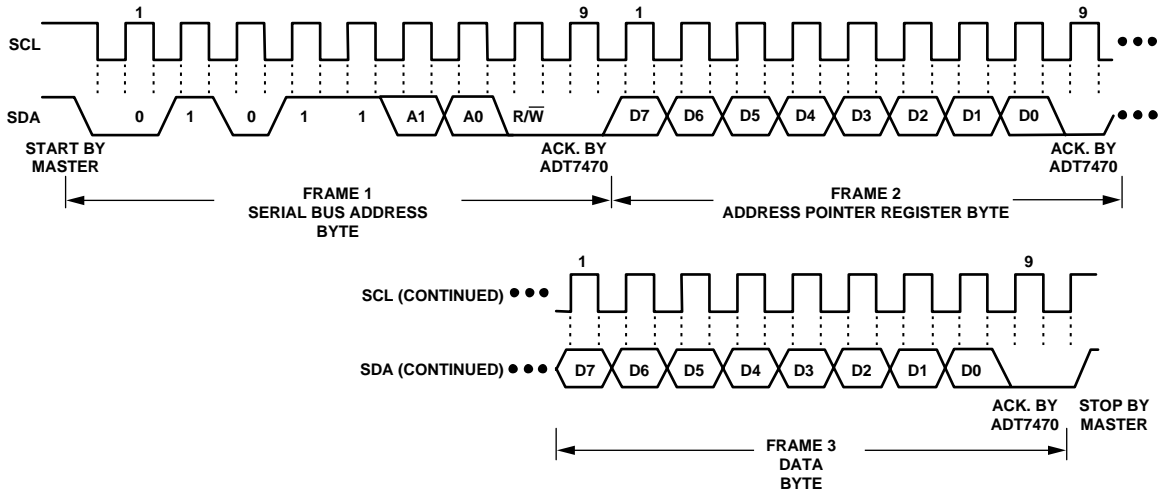
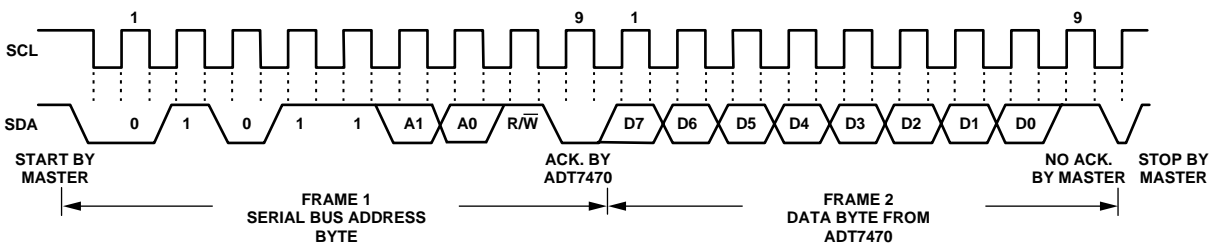

Figure 7. Writing a Register Address to the Address Pointer Register, then Writing Data to the Selected Register
Figure 9. Reading Data from a Previously Selected Register
This is illustrated in Figure 7. The device address is sent over the bus followed by R/W set to 0. This is followed by two data bytes.
A read operation is then performed consisting of the serial bus address, $\overline{R/\overline{W}}$ bit set to 1, followed by the data byte read from the data register. This is shown in Figure 9.
- In Figure 7 to Figure 9, the serial bus address is shown as the default value 01011(A1)(A0), where A1 and A0 are set by the address select mode function previously defined.